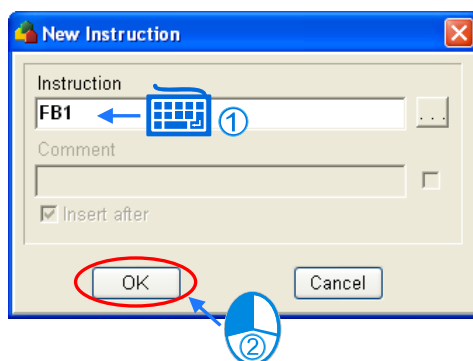

Figure 12-31 Typing a function block definition
- (1) When the users type a function block definition, the **New Instruction** window appears. (The function block definition that the users type is case-insensitive.) After the users type a function block definition in the **Instruction** box, they have to press Enter on the keyboard, or click **OK** in the **New Instruction** window. Please see figure 12-31.